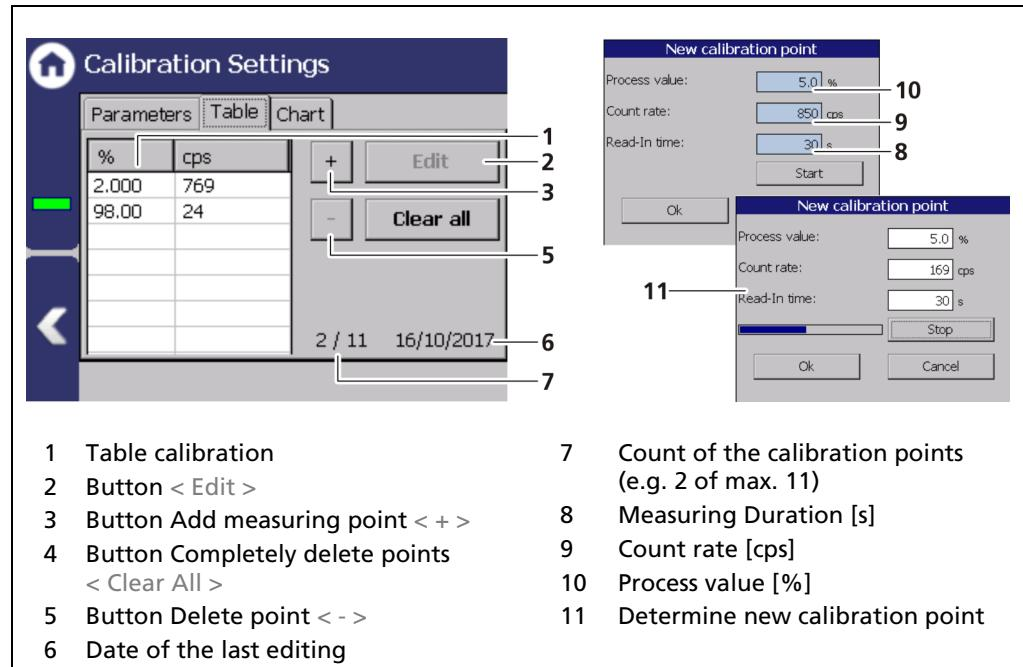

Fig. 79 Calibration Parameters (Table linear calibration type)
1. Click on the button < + > (Fig. 79, item 3).
- ▶ The window "New calibration point" (Fig. 79, item 8 - 10) opens.
2. Click on the input field "Process value" (Fig. 79, item 10) to open the input field.
4. Click on the input field "Read-In-Time" (Fig. 79, item 8) to open the input field.
- ▶ The Window "New calibration Point" (Fig. 79, item 11) opens and the count rate is determined.